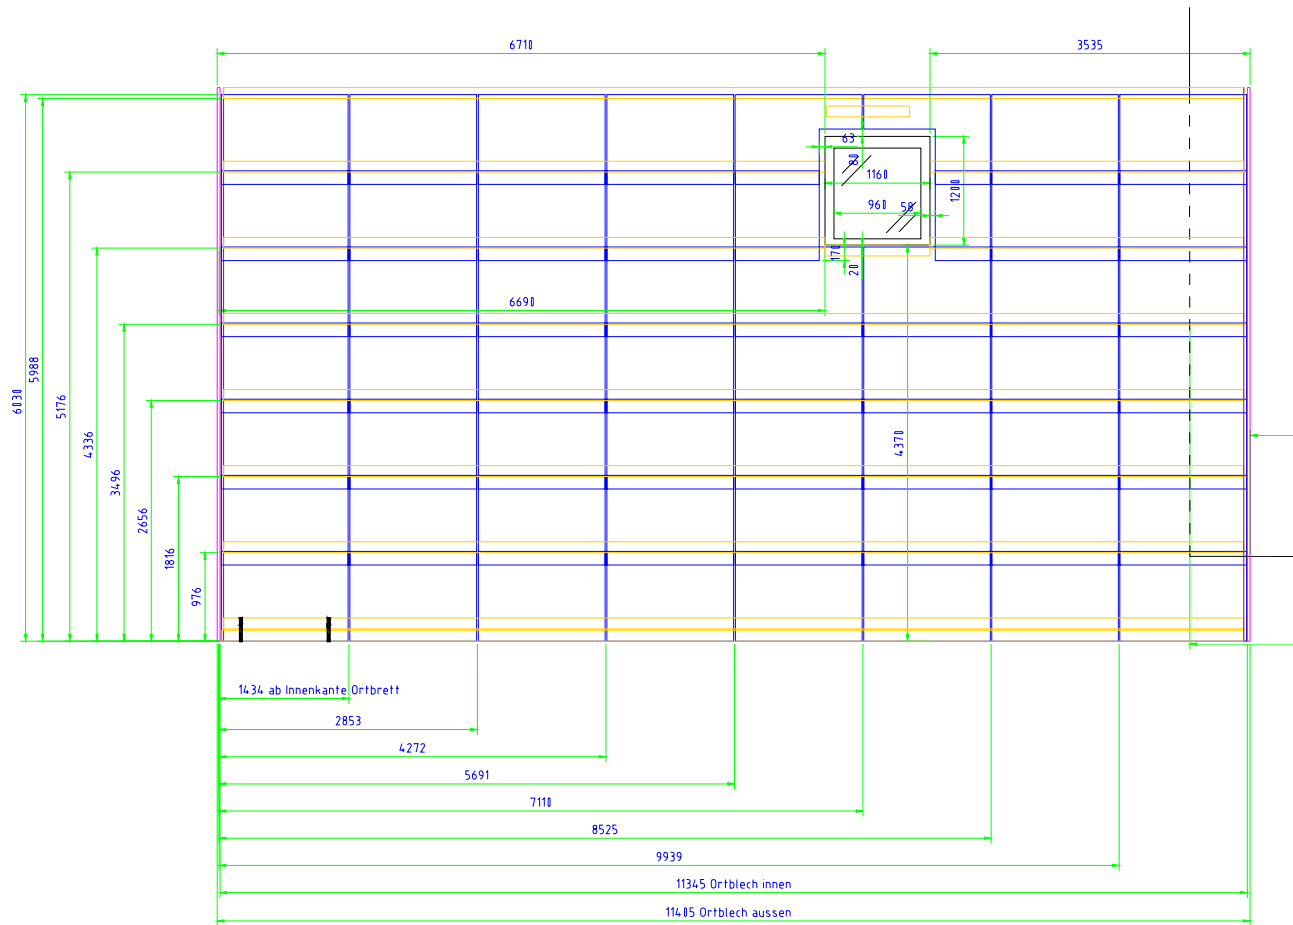

Figure 5 Roof plan (view from above) indicating position of modules and vertical GRP- profile
- Battening and/or roofing plan with module positions in above view and side view. Position of the battens and counter-battens, vertical water channelling sections and edge contacts, penetrations etc. In order to have a precisely fitting MegaSlate® sub-construction for the installation of the modules, the dimensioning on the roof has to be made starting from one fix point (in figure 5 it's from the left down). Figure 5 shows an excerpt from a roof plan with view from above. For complicated roofs it is recommended that the plan is printed with and without module positions – without modules can be used for example for the roofer to position the battens.